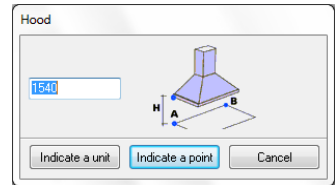

Fig. 253 – Hood dialog box
- the following dialog will display (Fig. 253);